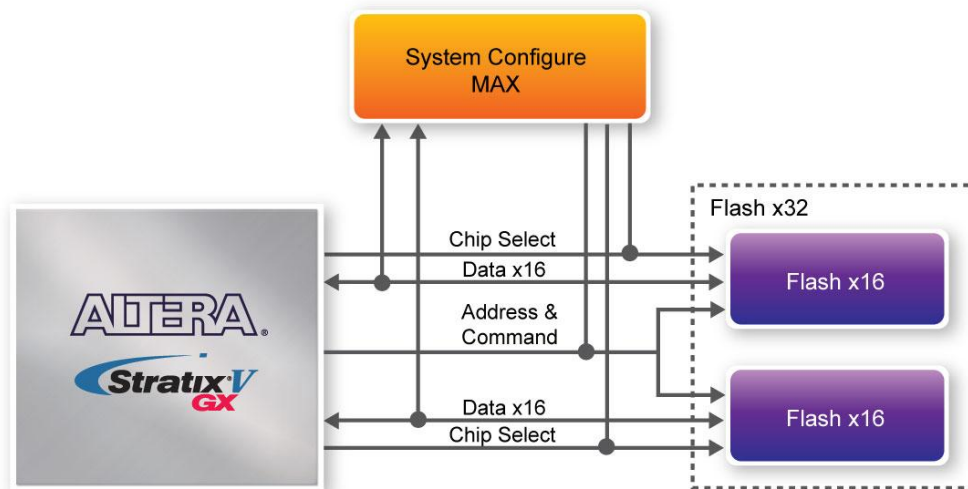

Figure 2-8 Connection between the Flash, Max and Stratix V GX FPG
Each interface has a 16-bit data bus and the two devices combined allow for x32 FPP configuration. This device is part of the shared flash and MAX (FM) bus, which connects to the flash memory and MAX II CPLD (EPM2210) System Controller. **Figure 2-8** shows the connections between the Flash, MAX and Stratix V GX FPGA.